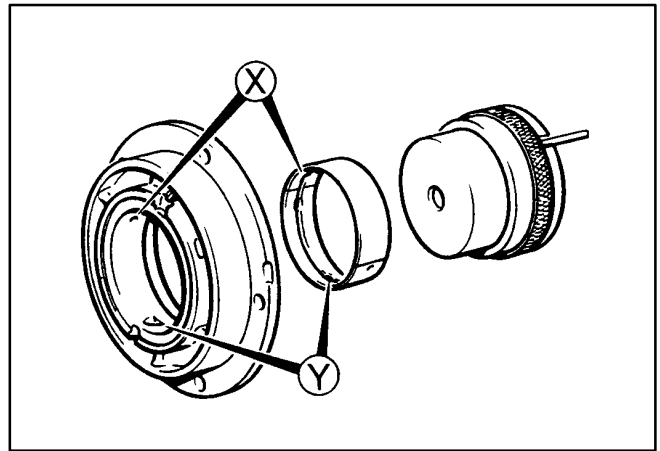

FIGURE 8-27. MAIN BEARING HOUSING OIL HOLE
3. Place the driver (G) onto the collar (F) with the cut-out on the driver located over the collar locating pin.
5. Scribe a pencil line in line with the oil hole (Figure 8-27, Item X) on the outside face of the housing (crankcase at the gear end).
6. Install the assembly in the housing from the oil seal side (crankcase outside face at the gear end) with the locating pin in line with the pencil line on the housing (crankcase at the gear end). Take care to line up the locating pin with the inner oil hole (X).
8. Fit the bridge (C) and the nut (E) onto the bolt.
9. Tighten the nut until the driver (G) is against the face of the collar (F).
11. Check that the elongated oil hole (Figure 8-27, Item X) and the small oil hole (Y) in the bearing shell line up with the oil feed holes in the housing (crankcase).